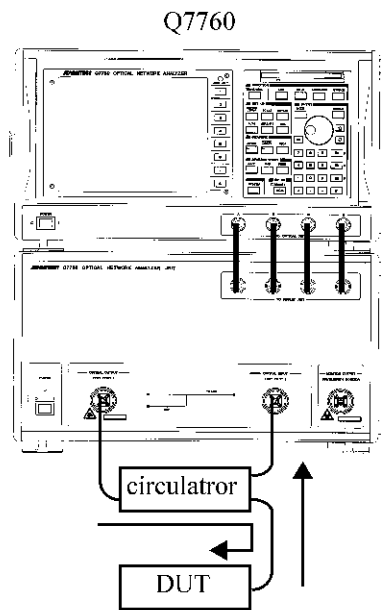

Figure 3-9 Connecting the DUT
17. Connect the fiber grating and the circulator as shown in Figure 3-9 to measure the reflection characteristics.